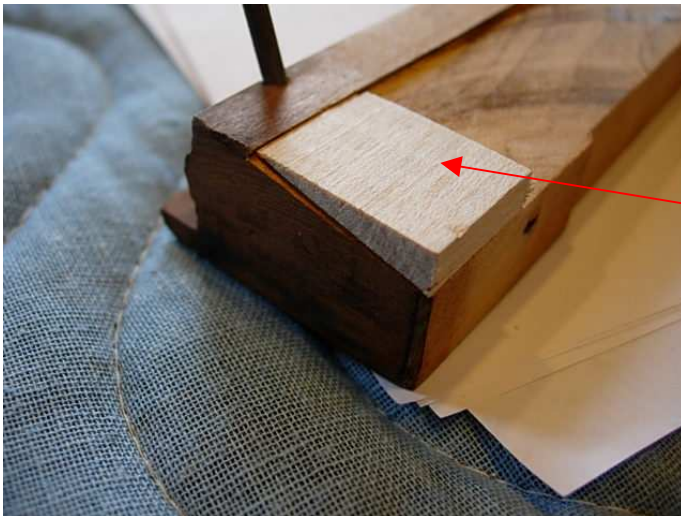

Fig. 9
- ii. Glue this wedge onto the rail at each screw location. Make sure that the height is the same as before. (See Fig. 9)